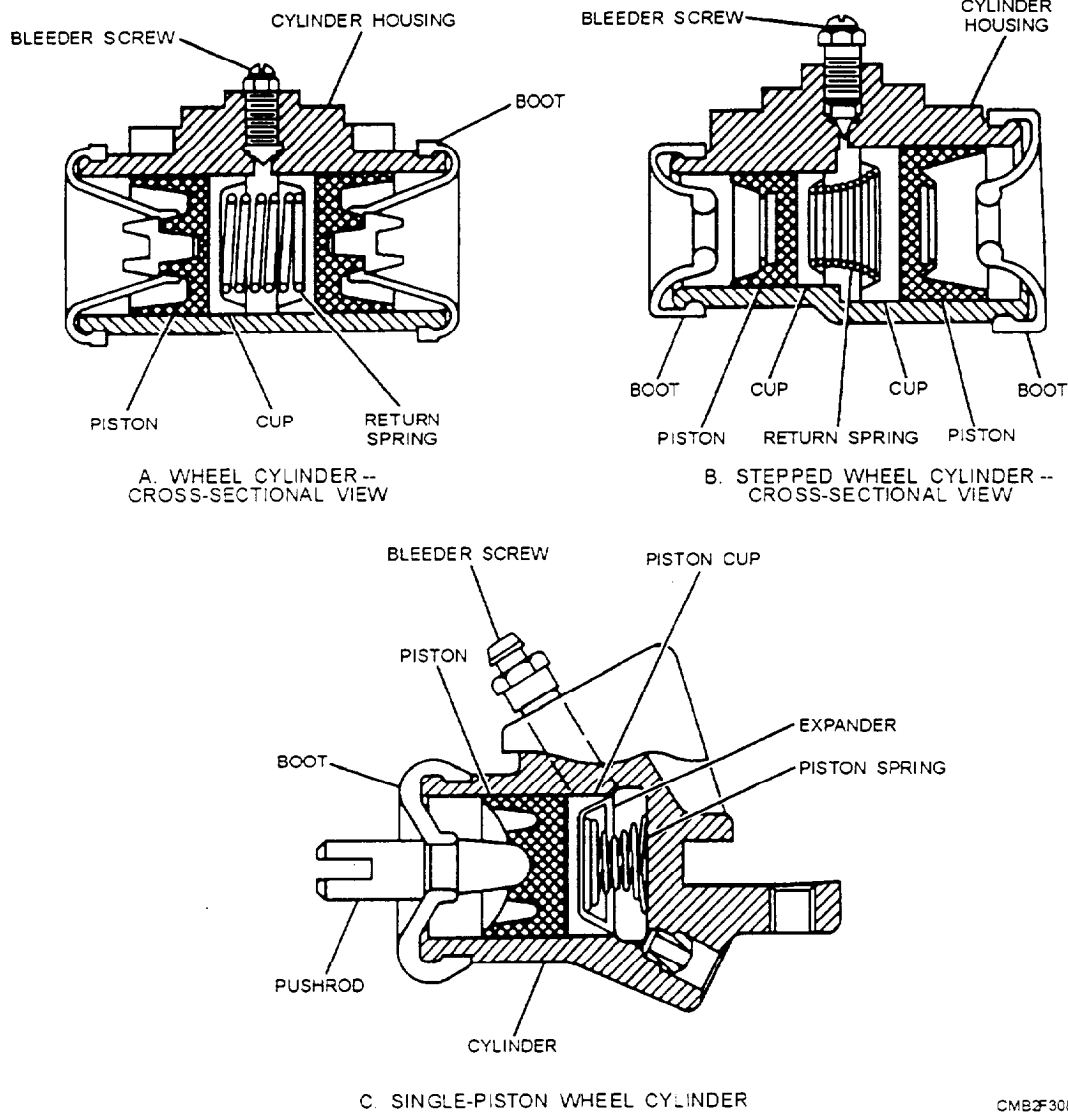
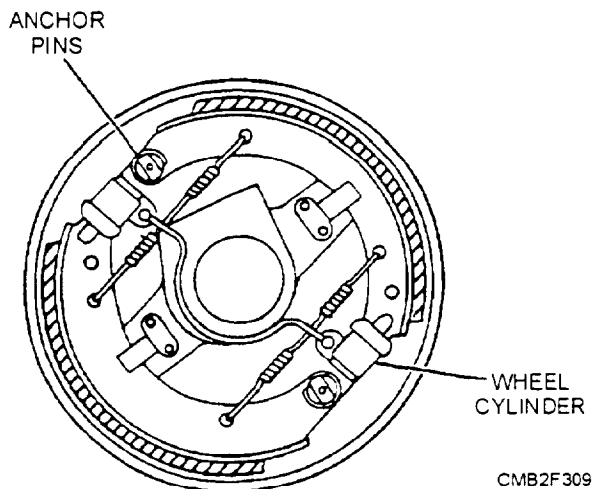

Figure 7-7.—Wheel cylinder configurations.
Figure 7-8.—Double-anchor, double-wheel cylinder configuration.
A wheel cylinder (fig. 7-7) changes hydraulic pressure into mechanical force that pushes the brake shoes against the drums. Other than the standard wheel cylinder, there are two other types that you may come in contact with—the stepped wheel cylinder and the single-piston wheel cylinder.
- The stepped wheel cylinder (fig. 7-7) is used to compensate for a faster rate of wear on the front shoe than on the rear shoe because of the self-energizing action of the brakes. This condition requires a stepped wheel cylinder with two bore sizes.
- The single-piston wheel cylinder (fig. 7-7) is used when it is desired that both brake shoes be independently self-energizing, especially on the front wheels. With this design it is necessary to have two wheel cylinders, one for each shoe. Each cylinder has a single piston and is mounted on the opposite side of the brake backing plate from the other cylinder. Such an arrangement is shown in figure 7-8.